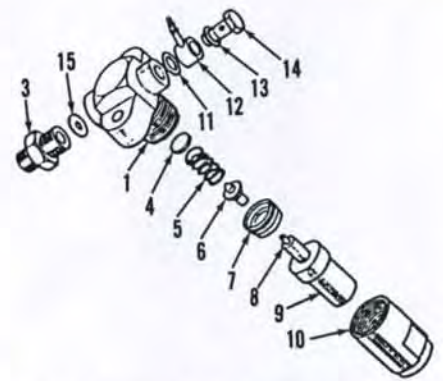

Fig. 65—Exploded view of injector unit used on Model L210. Refer to Fig. 64 for parts identification except for the following.
67. MODEL L210. To remove injector unit, first remove high pressure line leading from pump to injector. Disconnect bleed line by removing banjo bolt or by pulling line from banjo nipple fitting (12—Fig. 65). Remove two stud nuts securing ears of injector body to left side